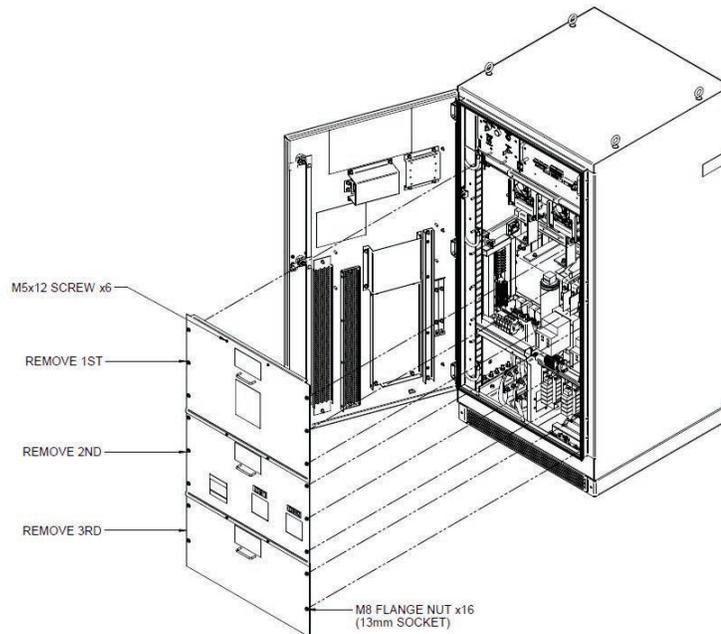

Figure 39. Dead-front access panel removal.
- Remove the three dead-front access panels from inside the PCS enclosure using a #2 Phillips driver for the screws at the top of each panel and a 13-mm socket wrench. See Figure 39.